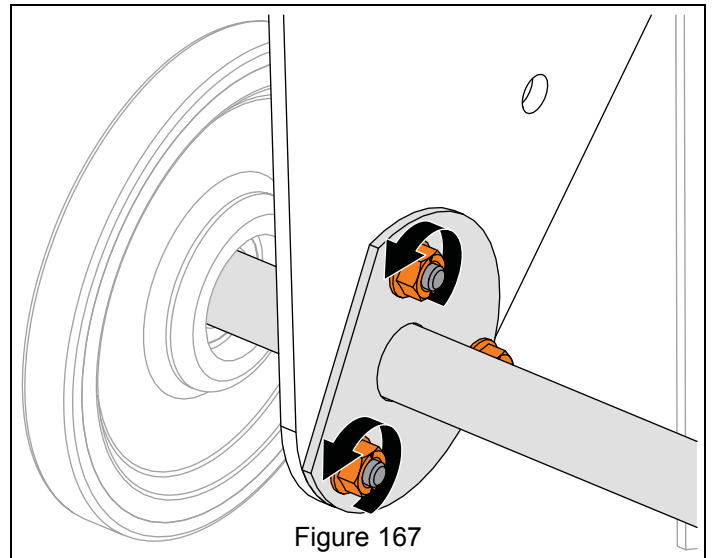

Figure 167
9. Loosen, but DO NOT remove hardware securing axle mount plates to carriage side plates. See Figure 167.